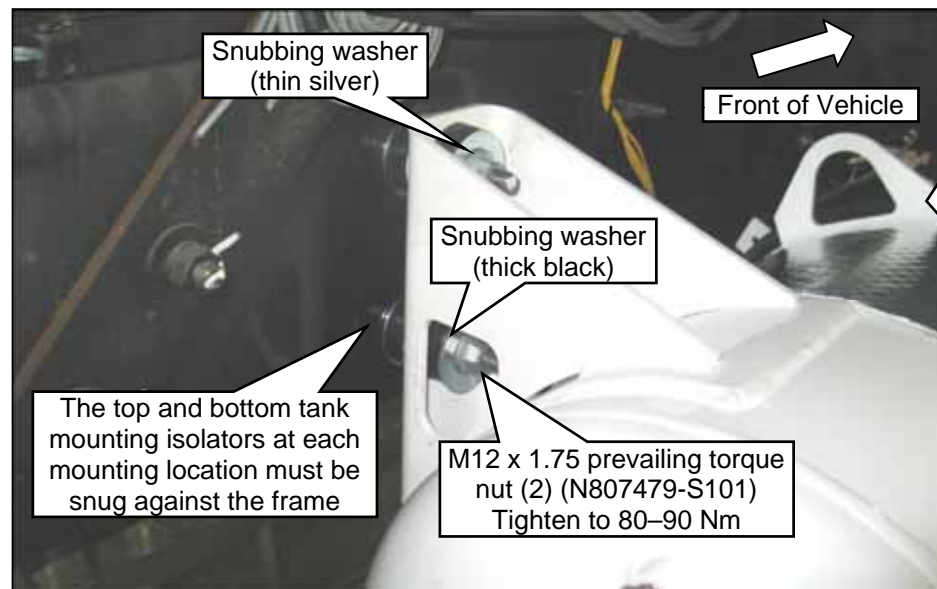

Figure 31.5
4. Push the tank against the right frame rail, aligned with the four bolts. Note: With assistance, push on the four bolts to keep them in place when positioning the tank. Have a few assistants help maneuver the tank into place until the remaining fasteners can be installed on the inside of the tank saddle brackets. At each mounting location, install two snubbing washers and two M12 x 1.75 mounting nuts (prevailing torque), one each onto the M12 bolts. Thread into place until the tank is snug against the frame rail at all top and bottom locations. Note: Ensure that one end of the tank is not pitched up or down and that the tank is positioned level before tightening mounting fasteners. Tighten all four fasteners to specification. **Figure 31.5.**